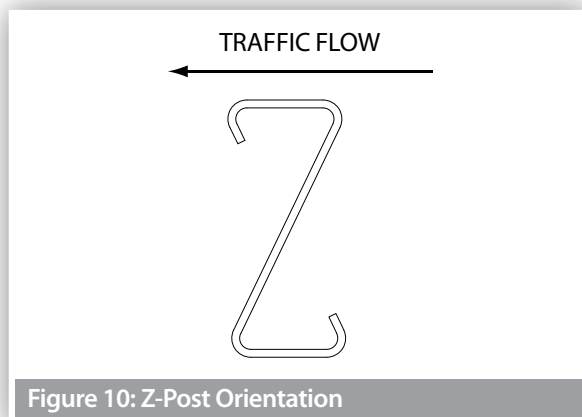

Figure 10: Z-Post Orientation
5. Determine the curvature orientation from Figure 10.